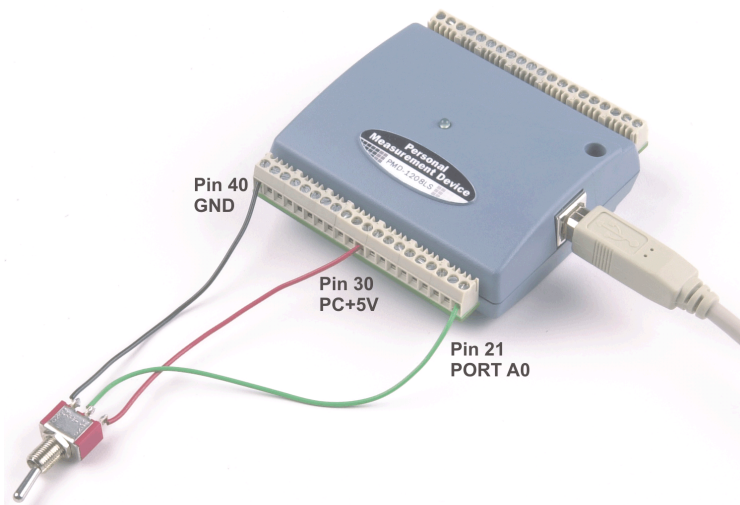
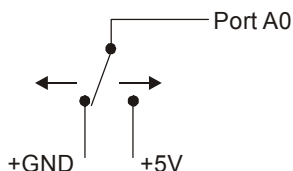

Figure 4-7. Digital connection Port A0 detecting the state of a switch
Figure 4-8. Schematic showing switch detection by digital channel Port A0
When configured for input, you can use the device's digital I/O terminals to detect the state of any TTL level input. Refer to the switch shown in Figure 4-7 and the schematic shown in Figure 4-8. If the switch is set to the +5V input, Port A0 reads *TRUE* (1). If you move the switch to GND, Port A0 reads *FALSE*.